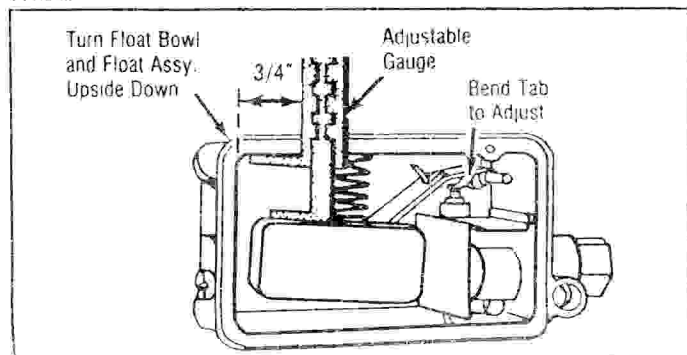

Fig. 2 Float Level Adjustment - Dry Setting
1. Assemble gauge included in kit. Calibrate to scale "A". Remove float bowl and turn upside down, allowing float to close fuel inlet needle valve. See Fig. 2.